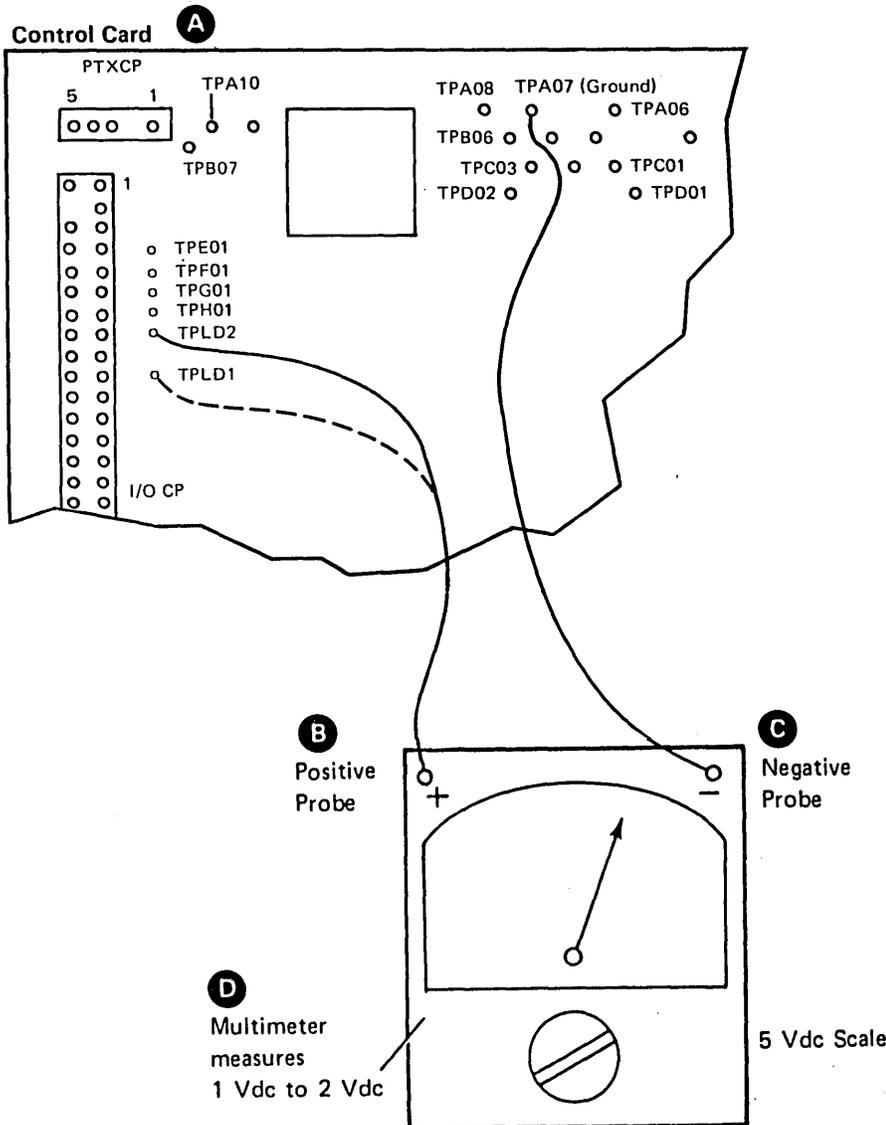

Figure F-36. LED Output Check
F.3.6.2 LED Output Service Check (Figure F-36)